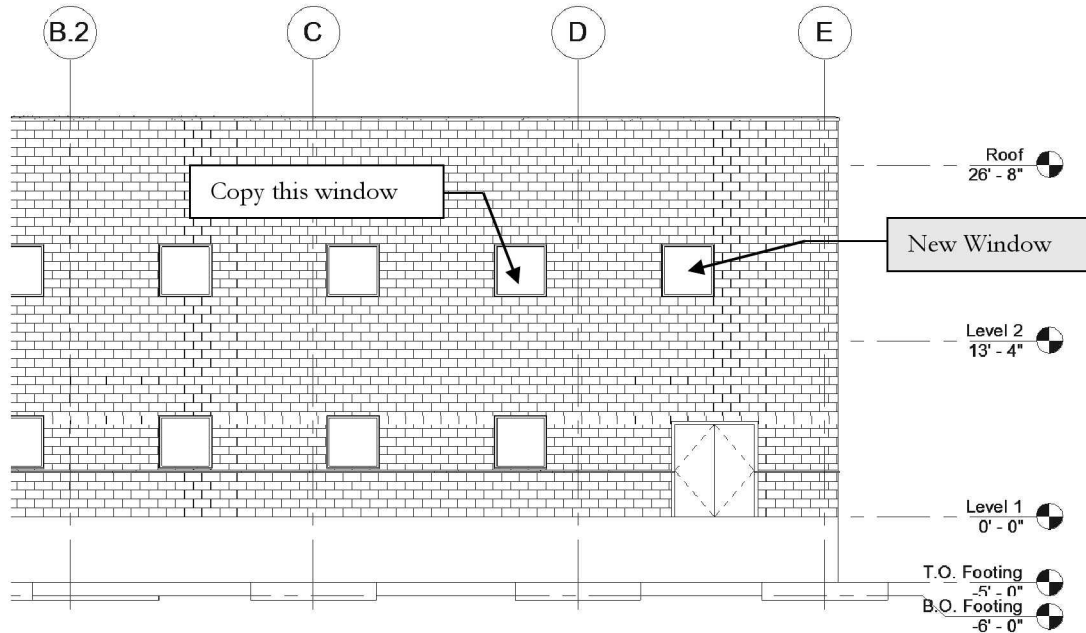

FIGURE 10-1.11 Modifying windows on the East elevation
22. **Copy** the selected window **12'-8"** to the North, i.e., to the right in this view (Figure 10-1.11).